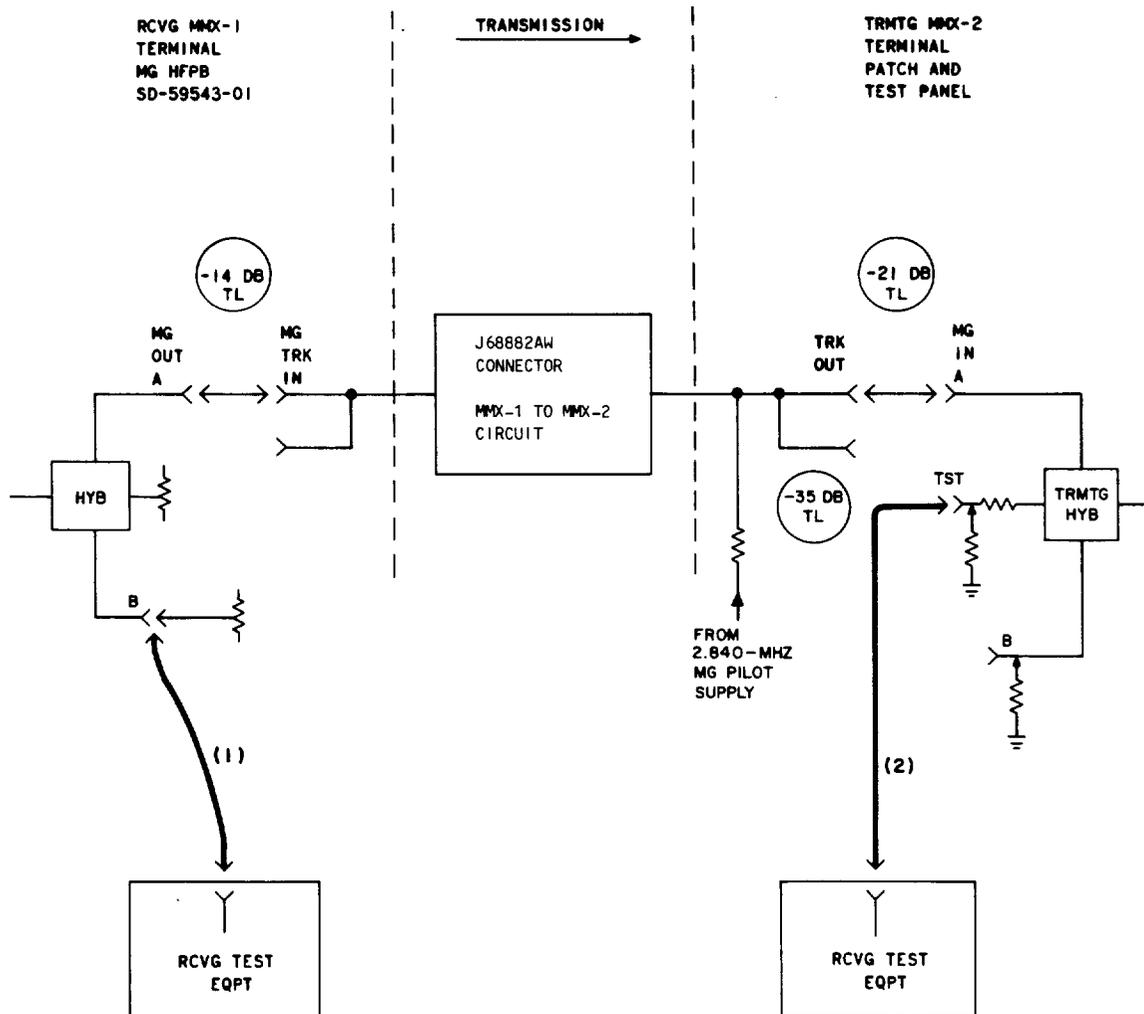

Fig. 2—Mastergroup Connector—MMX-1 to MMX-2 Test Arrangement
Note: See Fig. 2 for test arrangements.
| 3 | Connect the receiving test equipment to the MG OUT B jack for the mastergroup under test [patch (1) in Fig. 2]. |
| 9 | Patch the receiving test equipment to the TST jack for the mastergroup under test in the transmitting MMX-2 terminal [patch (2) in Fig. 2]. |